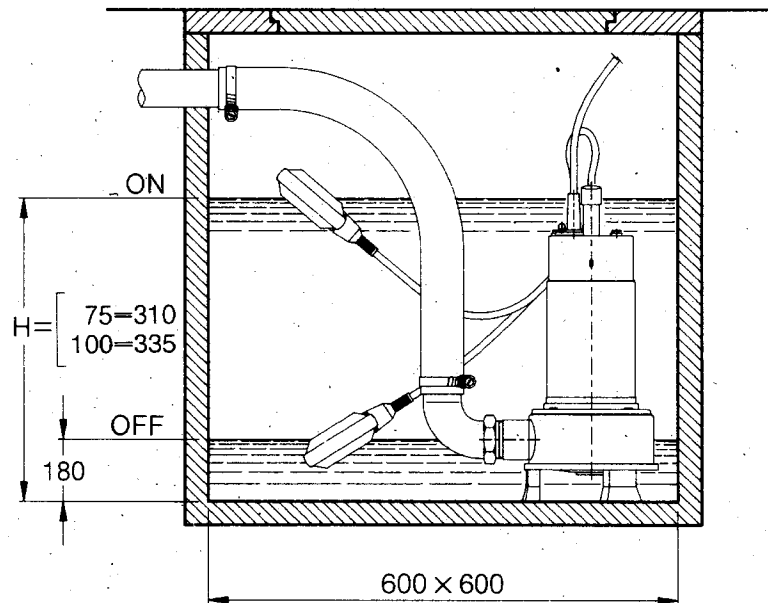

fig. 2 - Abb. 2 - fig. 2 - kuva 2 - afb. 2 - fig. 2 - εικ. 2
Insert the plug and/or switch on the switch; the electropump starts operating; once the electropump has taken in water up to the minimum level (fig. 2), remove the plug and/or switch off.
15.2. SCHEMA INSTALLAZIONE CON SPAZI FUNZIONALI MINIMI (fig. 2)
15.2. DIAGRAM FOR INSTALLATION WITH MINIMUM FUNCTIONAL SPACES (fig. 2)
15.2. DIMENSIONS MINIMALES DU PUISARD (fig. 2)
15.2. INSTALLATIONS-SCHEMA MIT MIN. FUNKTIONS-RÄUMEN (Abb. 2)
15.2. ESQUEMA INSTALACION CON ESPACIOS FUNCIONALES MINIMOS (fig. 2)
15.2. INSTALLATIONSRIITNING, MINSTA DRIFTUTRYMME (fig. 2)
15.2. DIAGRAM FOR INSTALLATION MED MINIMUM FUNKTIONSPLADS (fig. 2)
15.2. SCHEMA INSTALLATIE MET MINIMALE FUNCTIONEEL RUIJMTES (afb. 2)
15.2. ESQUEMA DA INSTALAÇÃO COM ESPAÇOS FUNCIONAIS MÍNIMOS (fig. 2)